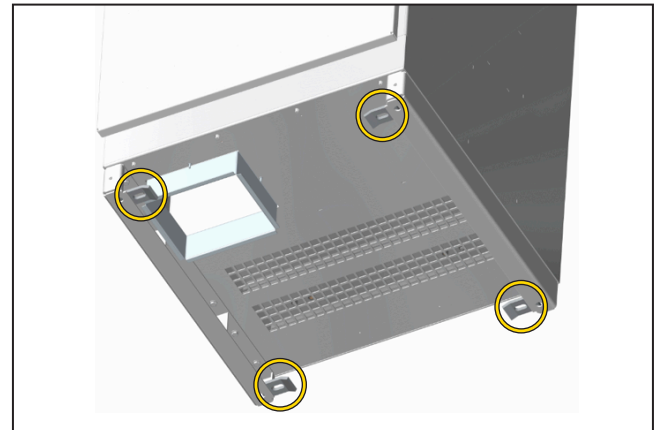

Figure 5. Mounting points.
- (a) Anchor the PCS enclosure to the concrete pad. Use $\frac{3}{8}$ -inch diameter \times 2-inch embed Hilti Kwik Bolt TZ anchors for each bracket. The anchor brackets should be located at each corner, as shown in Figure 5. Tighten the bolts again three to five days after the initial installation.